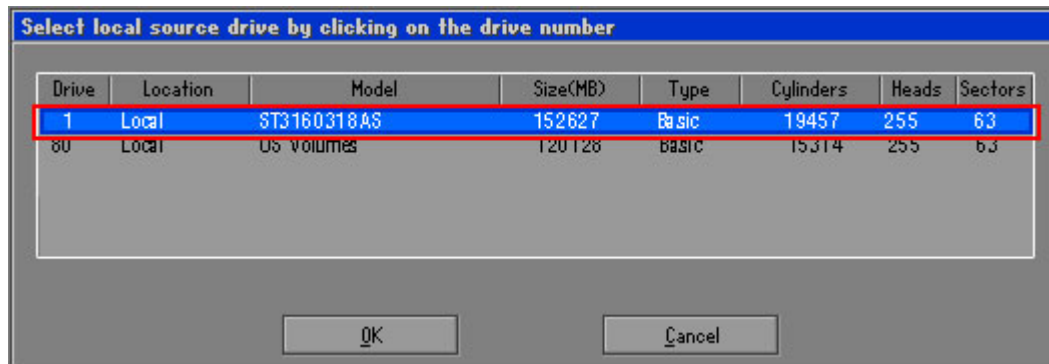

Figure A-14: Select a Local Source Drive
**Step 5:** Select the local source drive (Drive 1) as shown in Figure A-14. Then click OK.